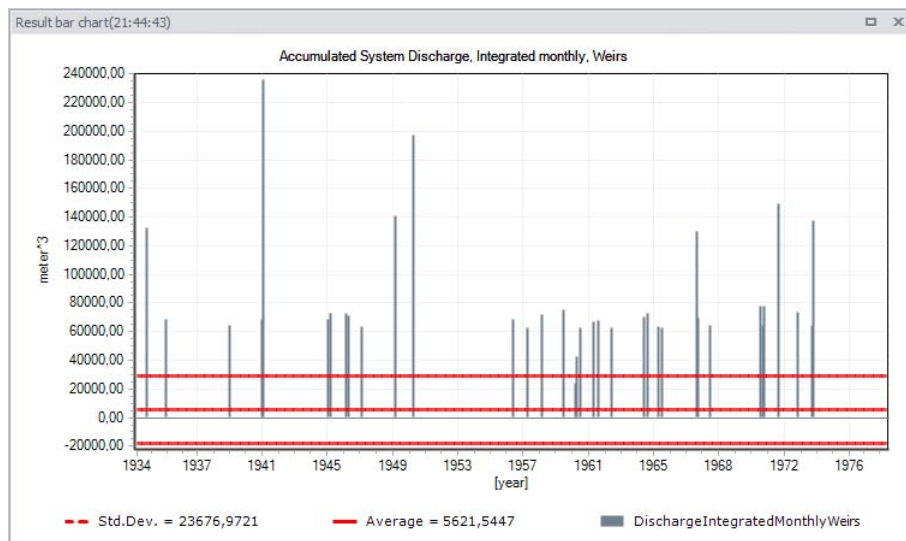

Figure 20.65 Example bar chart plot of monthly weir overflow volumes from LTS chronological statistics results
- Click on the ‘OK’ button to create a new bar chart plot. An example is shown in Figure 20.65.